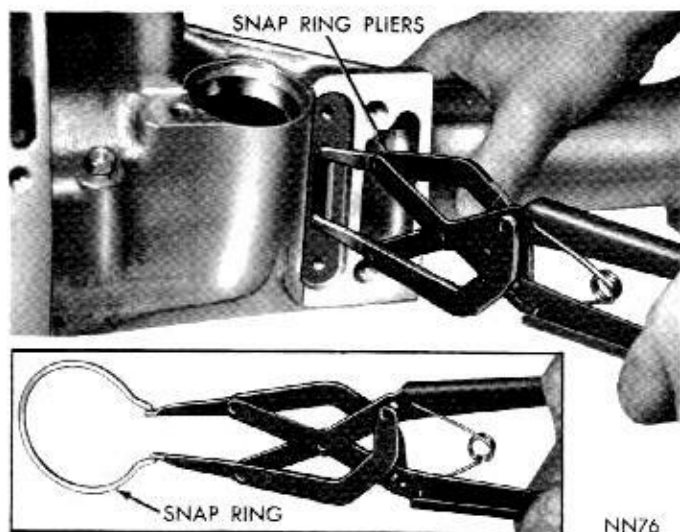

Fig. 19—Removing or Installing Extension Housing
(5) Remove two screws, plate and gasket from bottom of extension housing mounting pad. Spread large snap ring from output shaft bearing with Tool C-3301 (Fig. 19). With snap ring spread as far as possible, carefully tap extension housing off the output shaft bearing. Carefully pull extension housing rearward, to remove parking lock control rod knob past the parking sprag, then remove the housing.
(1) Place a new extension housing gasket on the transmission case. Position output shaft bearing retaining snap ring in extension housing. Slide extension housing on output shaft guiding the parking lock control rod knob past the parking sprag. While spreading large snap ring in housing with Tool C-3301A (Fig. 19), carefully tap housing into place, then release the snap ring. Make sure snap ring is fully seated in bearing outer race ring groove.
(2) Install and tighten extension housing bolts to 24 foot-pounds.
(3) Install gasket, plate and two screws on bottom of the extension housing mounting pad.
(4) Install center crossmember and rear mount assembly, tighten retaining bolts to 30 foot-pounds.